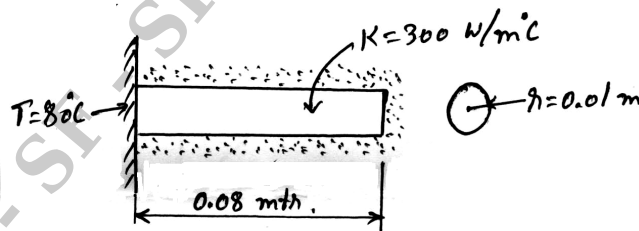

Fig Q7(a)
- 7 a. Calculate the temperature distribution in a 1-D fin with the physical properties given in Fig Q7(a). There is a uniform generation of heat inside the wall of $Q = 400\text{W/m}^3$.